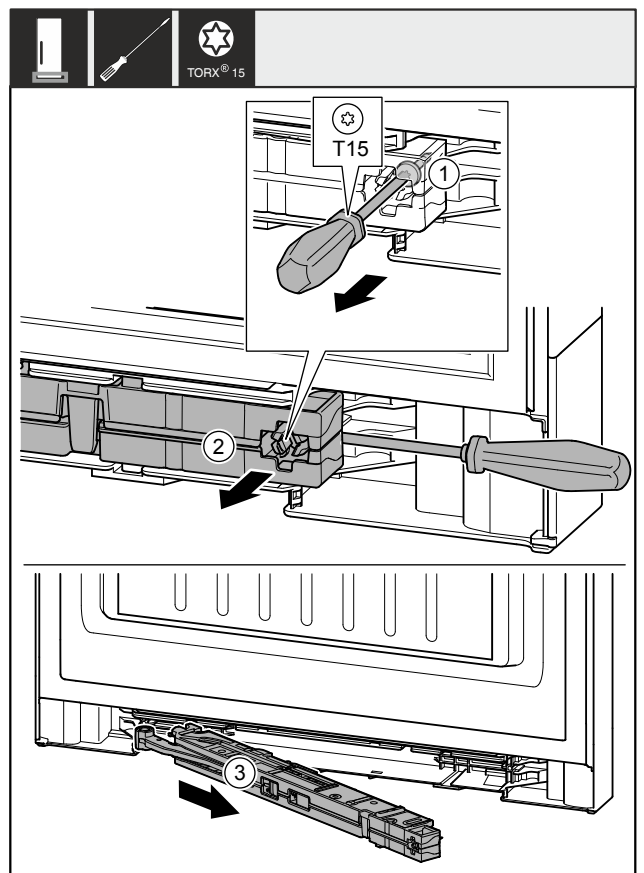

Fig. 11
- Use screwdriver to loosen the screw Fig. 11 (1) on the closing damper unit by approx. 14 mm.
- Lever the closing damper unit Fig. 11 (2) forwards on the handle side using a screwdriver.
- Pull out the closing damper unit Fig. 11 (3).